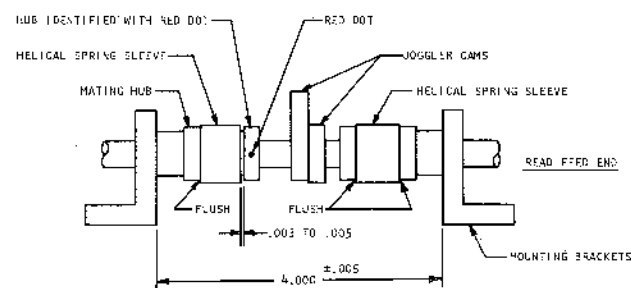

Figure 25. Center Stacker Joggler Assembly
2. Maintain $4.000'' \pm .005''$ between the bases of the two inside bearing brackets (Figure 25).